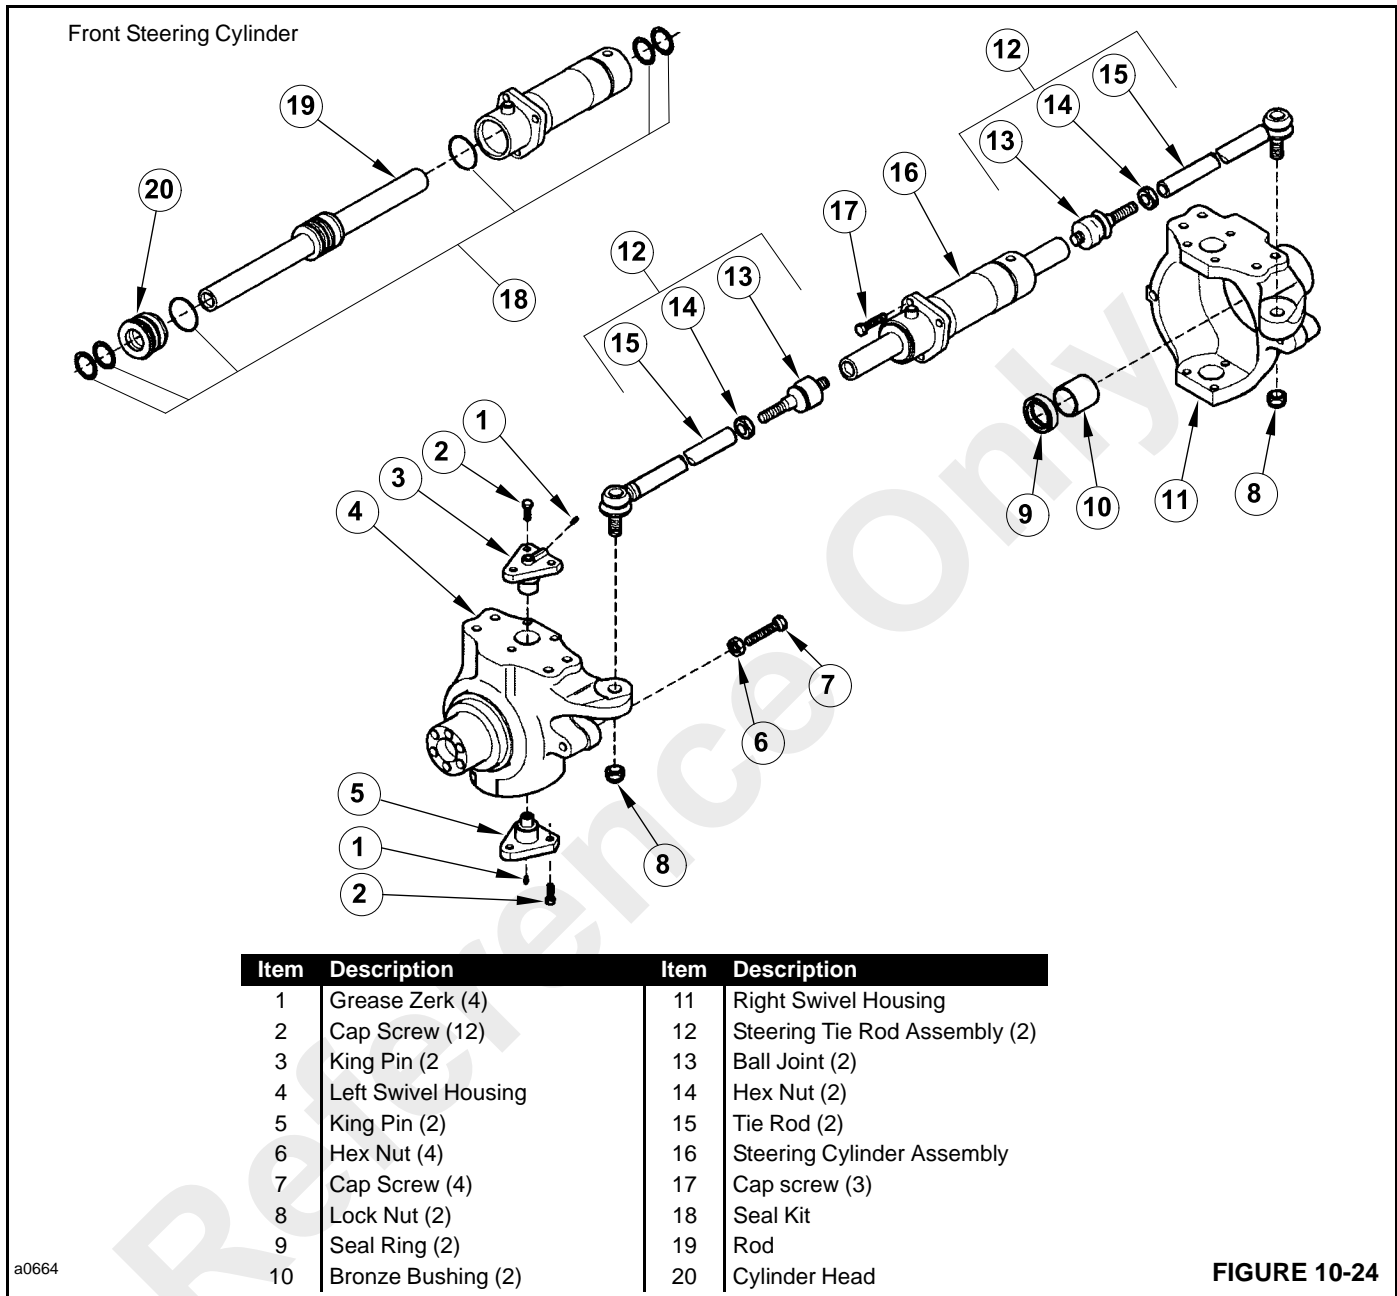

FIGURE 10-24
- Loosen the hex nut (8, Figure 10-24) on one of the cylinder tie rod ends (12) until none of the threads on the tie rod are exposed. Using a hammer and a tie rod fork, remove the tie rod from the swivel housing.
- Mark the tie rod for identification during assembly. Remove the tie rod assembly (12) from the cylinder rod. Do not loosen the hex nut (14), remove the tie rod at ball joint (13). Be careful not to tamper with the length of the tie rod assembly. If measurement is changed, the axle will have to be checked for toe-in.
- Remove three cap screws (17) fastening the cylinder to the axle housing. Remove the cylinder. It may be necessary to drive the cylinder out of its mounting brackets using a rubber hammer.
- Separate the cylinder head (20) from the cylinder tube and remove it.
3. Pull the cylinder rod (19) out of the cylinder tube.
1. Install new seal kit (18, Figure 10-24) to the cylinder rod, cylinder tube and cylinder head.
2. Install the cylinder rod (19) into the cylinder tube being careful not to damage any of the seals in the cylinder tube and on the cylinder rod piston.
3. Install the cylinder head (20) onto the cylinder rod (19), being careful not to damage any of the seals in the cylinder head.
1. Install the cylinder to the axle housing using three cap screws (17, Figure 10-24). Tighten the cap screws to a torque of 120 Nm (88 lb-ft).
2. Install the tie rod assemblies (12) to the ends of the cylinder rod (19). Check reference marks to make sure the tie rods are in the correct position. Tighten the tie rod assemblies to a torque of 300 Nm (220 lb-ft).
3. Install the ball joint of one of the tie rods (15) into the swivel housing. Install the lock nut (8) and tighten to a torque of 220 Nm (162 lb-ft).